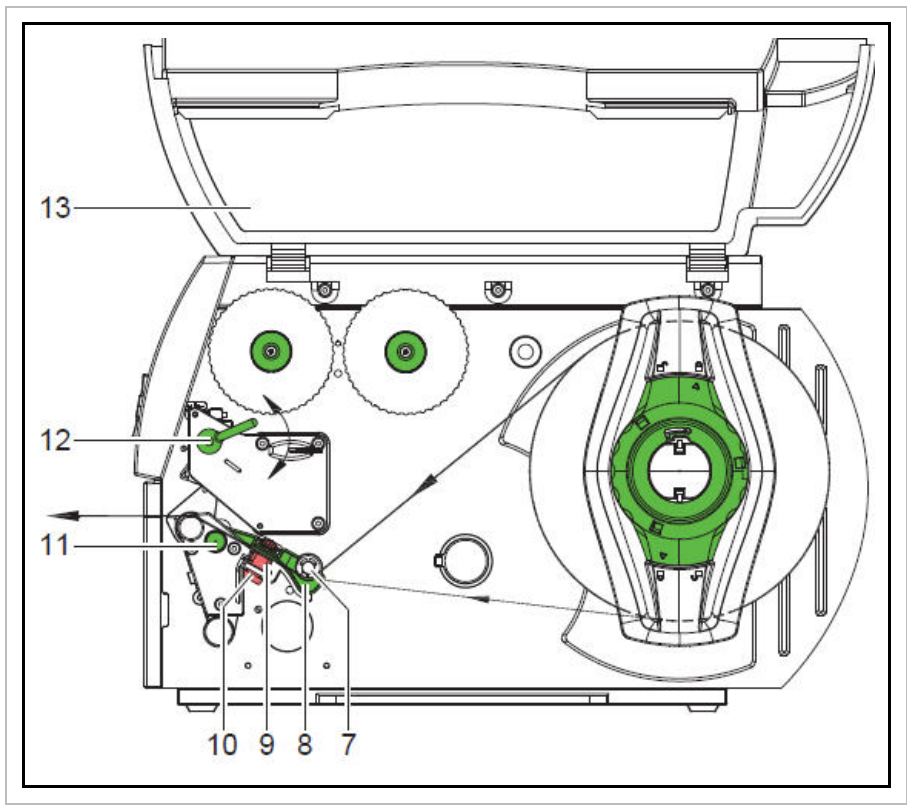

Fig: 7 Material feed path
- ▶ Loosen the knurled knob (10, fig 7) and position label sensor by moving the knurled knob in such a way that the sensor can detect the label gap or a reflex or cut-out mark.
- ▶ Turn lever (12) clockwise to lock the printhead.